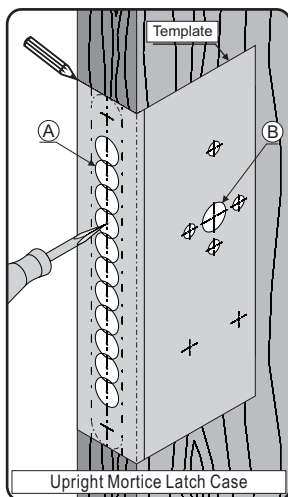

Fig. 1
- 4- Mark position of lever handle at HOLE B then mark bolt through fixing positions for lever rose, or backplate. See Fig 1.